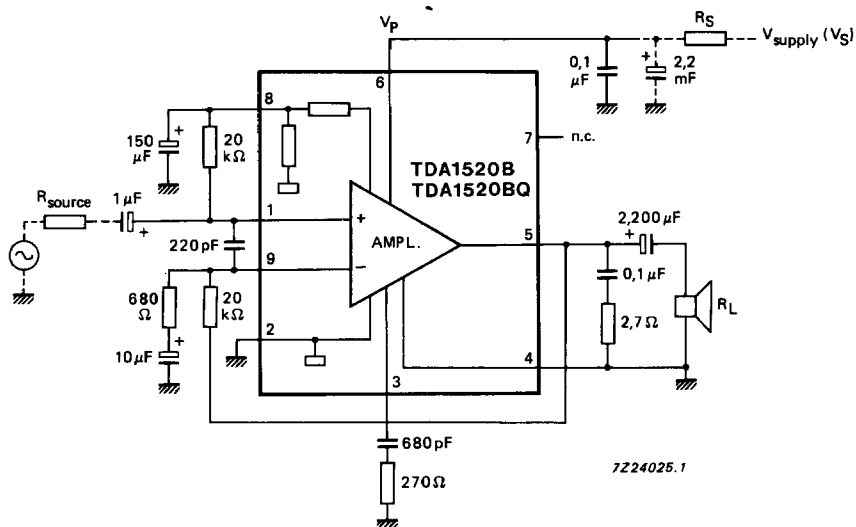

Fig. 6 Test and application diagram.
1. All values measured from test circuit Fig.6; $V_P = 33$ V; $R_L = 4 \Omega$; $f = 1$ kHz; $T_{amb} = 25$ °C; unless otherwise specified.
$V_p = 33\text{ V}$; $R_L = 4\ \Omega$; $f = 1\text{ kHz}$; $T_{amb} = 25\text{ }^\circ\text{C}$; unless otherwise specified; measured from test circuit, Fig. 6.